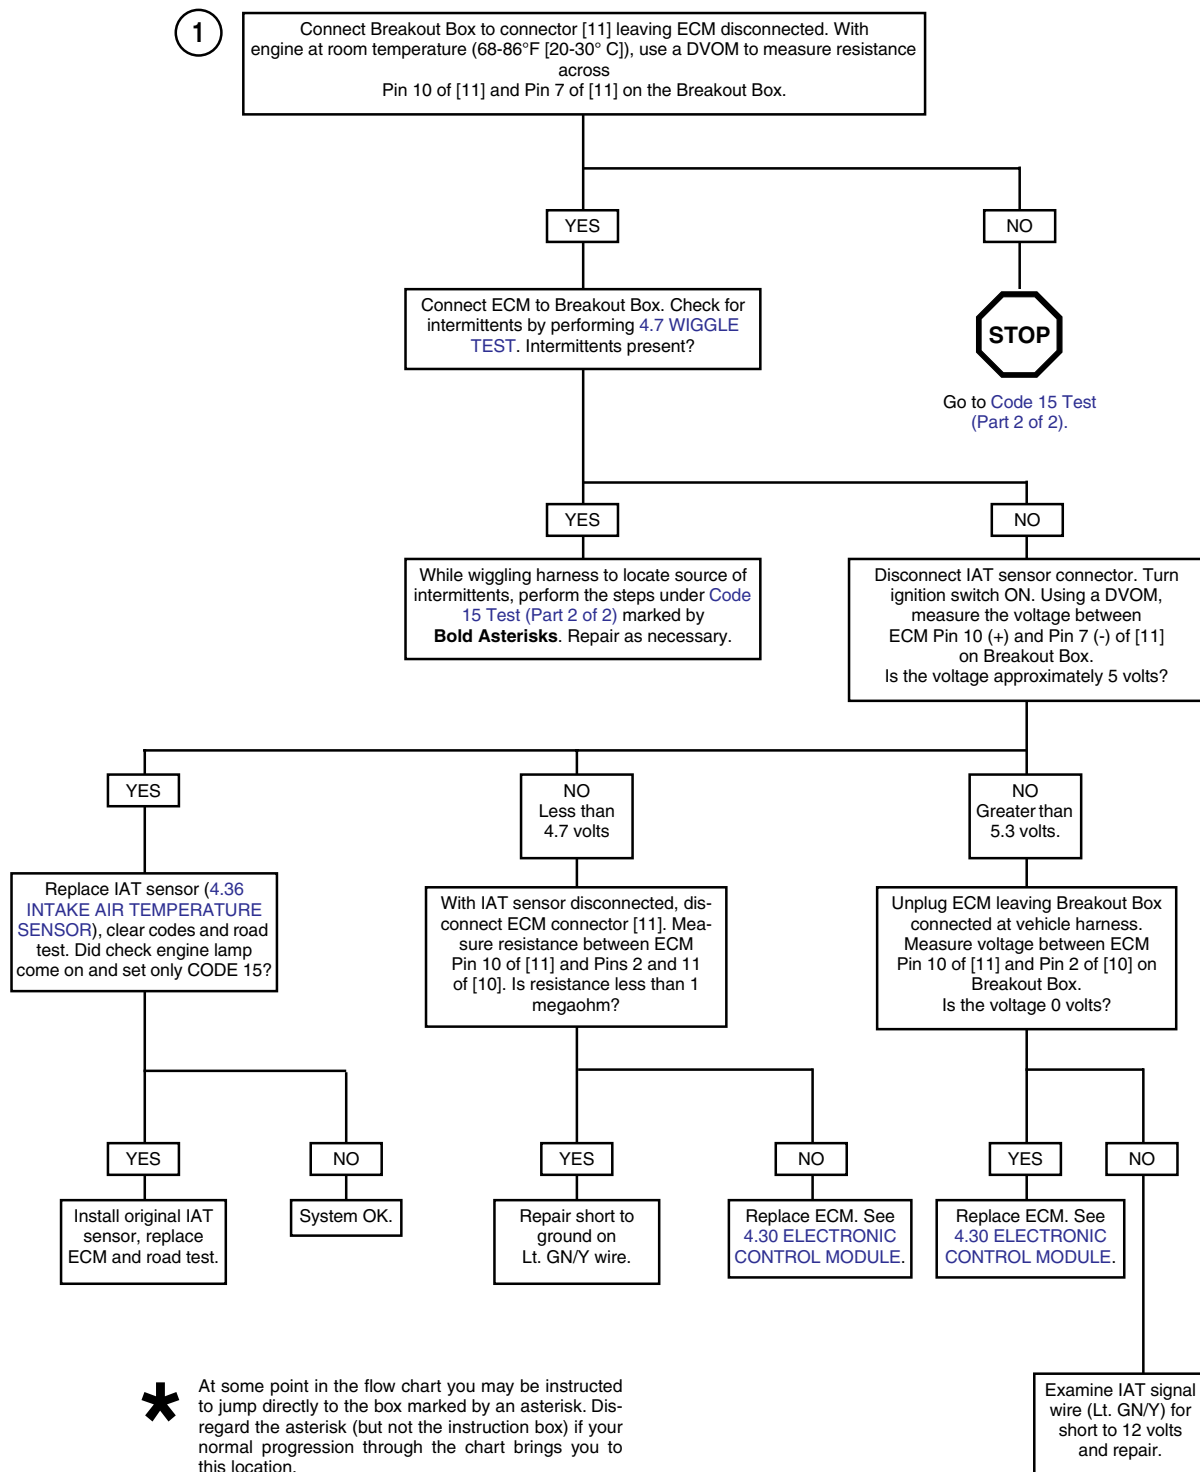

**Figure 4-39. Intake Air Temperature Sensor Circuit**
**Table 4-23. Wire Harness Connectors in Figure 4-39.**